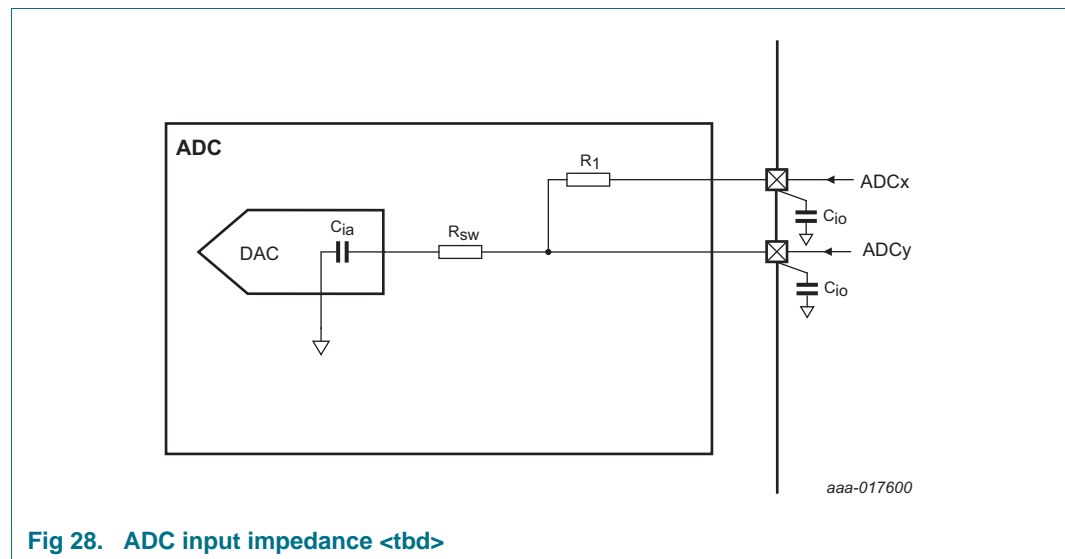

Fig 28. ADC input impedance <td>
- [12] Input impedance Z_i is inversely proportional to the sampling frequency and the total input capacity including C_{ia} and C_{io} : $Z_i \propto 1 / (f_s \times C_i)$. See Table 21 for C_{io} . See Figure 28.
Figure 28 shows the ADC input impedance. In this figure: